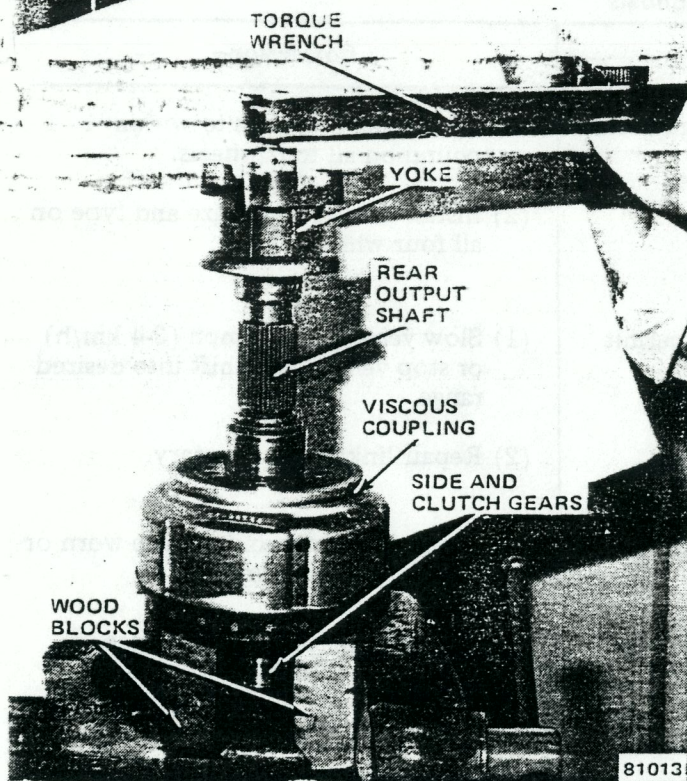

Fig. 2D-43 Torque Bias Check—On-Bench
(5) Check engagement of clutch gear in viscous coupling. Be sure gear is fully engaged in coupling before proceeding. If necessary, loosen vise and reposition wood blocks so they support gear in coupling.
(6) Install rear output shaft in viscous coupling (fig. 2D-43).
(7) Install yoke on rear output shaft and install yoke-retaining nut.